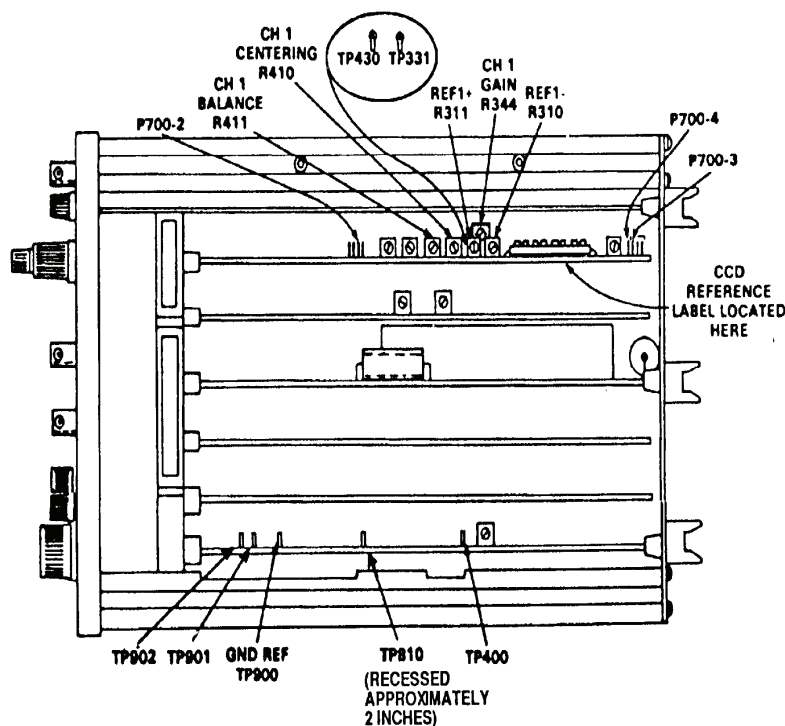
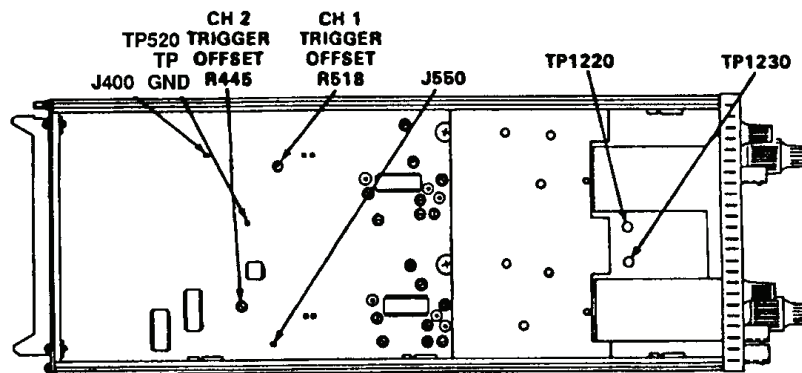

Figure 2. Tektronix, Type 7D20 top view - adjustment locations.
Figure 4. Tektronix, Type 7D20 left side view - adjustment locations.
- m. Connect multimeter positive lead to TP810 and negative lead to TP902 (ground) (fig. 2).
- r. Connect shorting cable between TP1220 and TP520 TP GND (fig. 4).
- s. Connect multimeter negative lead to TP902 (fig. 2) and positive lead to J400 (fig. 4) and adjust **CH 1 TRIGGER OFFSET R518**, (fig. 4) for 0 V ± 2 mV dc on multimeter.
- t. Remove shorting cable from TP1220 (fig. 4) and connect to TP 1230 and TP 520 TP GND (fig. 4).
- u. Connect multimeter negative lead to TP902 (fig. 2) and positive lead to J550 (fig. 4) and adjust **CH 2 TRIGGER OFFSET R445** (fig. 4) for 0 V ± 2 mV dc indication on multimeter.
aq. Connect multimeter to TP400 (fig. 2) and GND REF TP900 (fig. 2) and adjust **TRIGGERING LEVEL** control for -1.28 V, ± 10 mV indication on multimeter .
- bf.** Connect multimeter between TP400 and GND REF TP900 (fig. 2).
- bm.** Connect multimeter between TP400 and GND REF TP900 (fig. 2).